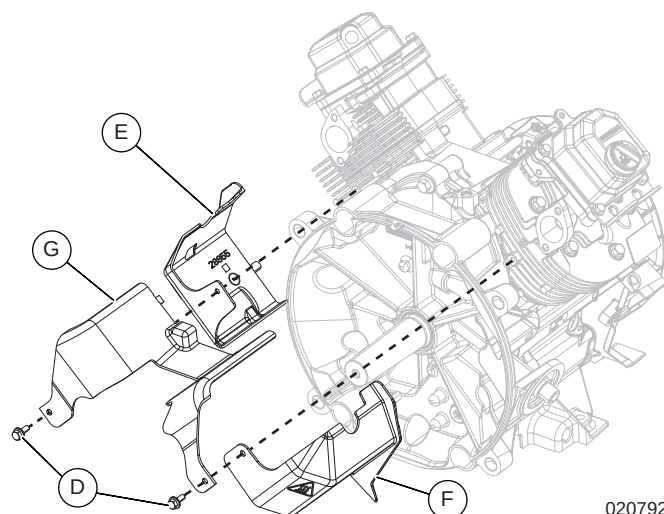

Figure 6-27. Remove Cylinder Wrappers
2. See Figure 6-27. Remove two fasteners (D) and side wrappers (E, F). Remove top wrapper (G).